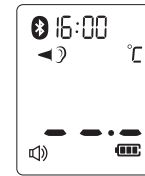
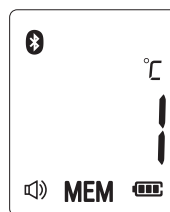

Figure 2
Figure 7
- Press the **⏻ Button**, The display is activated to show all segments. After self-checking Figure 2 appears on the display screen with beeps, so you can start a new measurement. If error messages appears, it means the thermometer is not ready for measurement.
When the thermometer has been turned on and followed by Figure 2/4 or finished testing, press and hold the **Button** for three seconds. The letter MEM will appear at the bottom of the display. (See Figure 7)